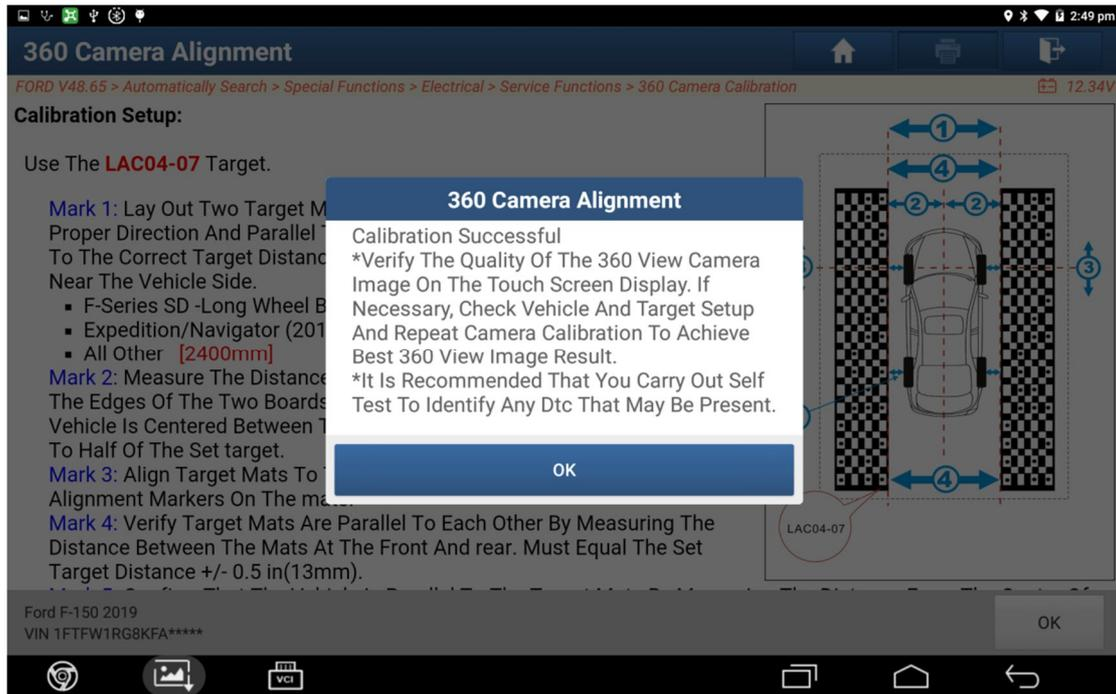

Figure 14
13. Prompt that the calibration is successful (Figure 14).